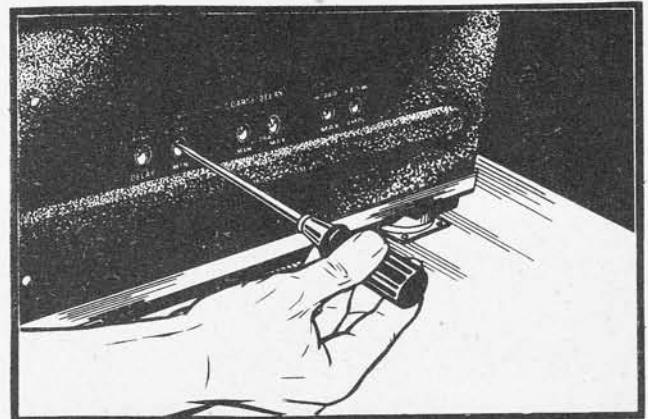

Figure 4-34
j. COARSE DELAY.—Figures 4-34 to 4-37 are for receiver-indicator emergency operation, coarse delay. If the range of the "COARSE DELAY" control is insufficient to adjust the delay for a desired station, proceed as follows: